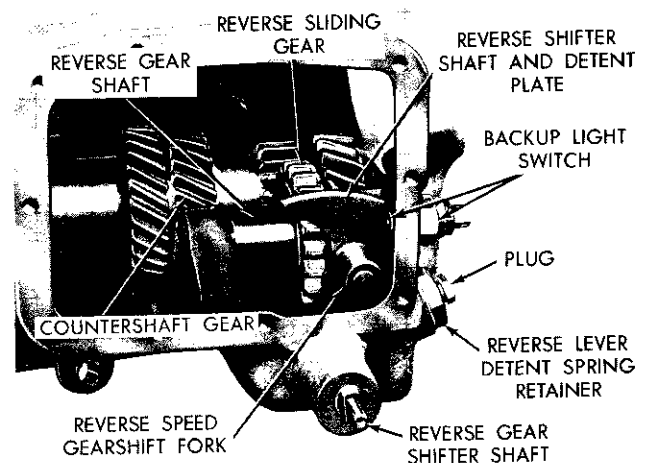

Fig. 41—Gear, Shaft and Lever Identification
Fig. 41 shows the reverse gear shift fork, the reverse sliding gear, the reverse sliding gear shaft and the cluster gear.
(2) Remove the reverse gearshift lever detent spring retainer, gasket, plug and detent ball spring from the rear of the case, (Fig. 41).